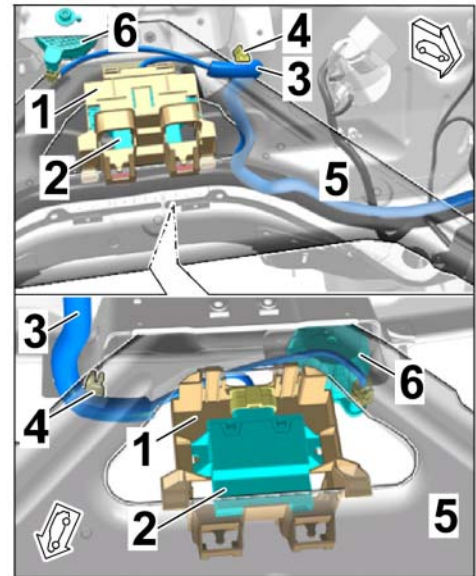

Figure 12
- 2.2 Disconnect plug connection for the standard engine noise control unit and remove engine noise control unit with holder. ⇒ *Figure 12*